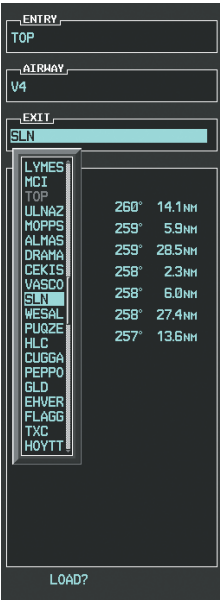

Figure 5-112 List of Available Exits for V4
h) Press the **ENT** Key. The list of available exits for V4 is now displayed as in Figure 5-112.
- i) If necessary, turn either **FMS** Knob to select the desired exit. In this case Salina VOR (SLN) is selected as in Figure 5-112.